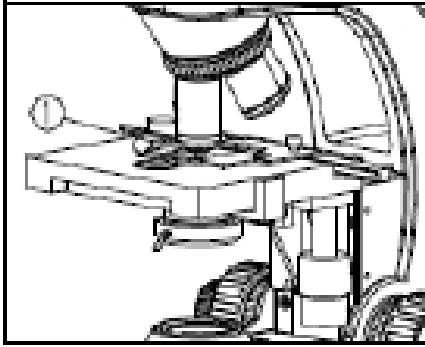

Fig. 16
2. Place a drop of oil (1) on the specimen (see Fig. 16).